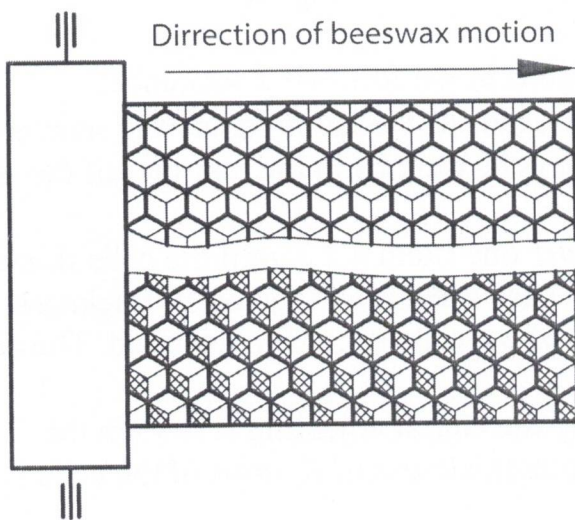

Fig.11
4.3.2. In the rear part of the beeswax honeycomb base sheet the cells are correct, and in the front part, the second or third rhombs of the sell are thicker (Figs 11 and 12).